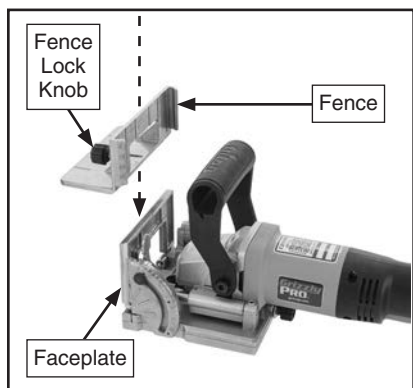

Figure 6. Fence attached to faceplate.
1. Loosen fence lock knob, and slide fence onto faceplate (see **Figure 6**).
2. Tighten fence lock knob (see **Figure 6**).